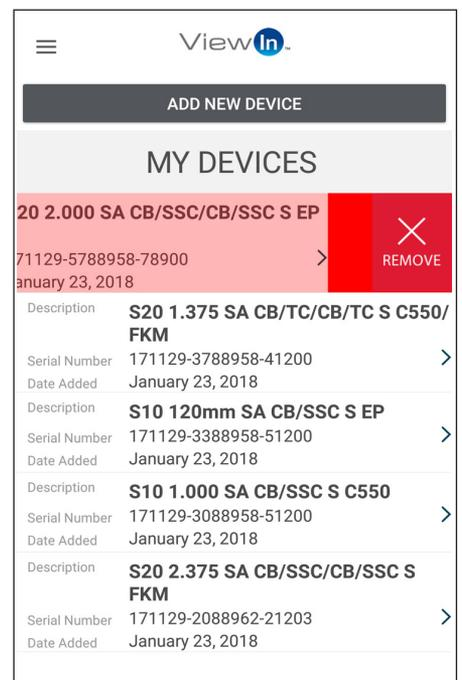

Figure 25
6. Seal devices that are removed from service can be deleted from the ViewIn application. If you are using the Android or Apple mobile application, *swipe left to see the Remove icon* (Figure 25).